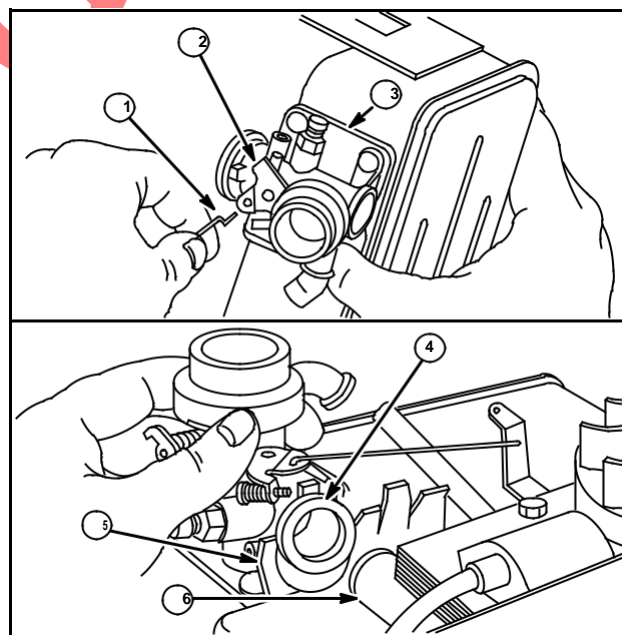

Fig. 53
1. Assemble carburetor and new gasket (3) to tank.
2. Hook throttle link (1) to throttle lever (2), Fig. 53.
3. Slip carburetor over notch in cylinder shield (5) and around intake tube (6).
4. Oil seal (4) in carburetor body to prevent damage when installing.